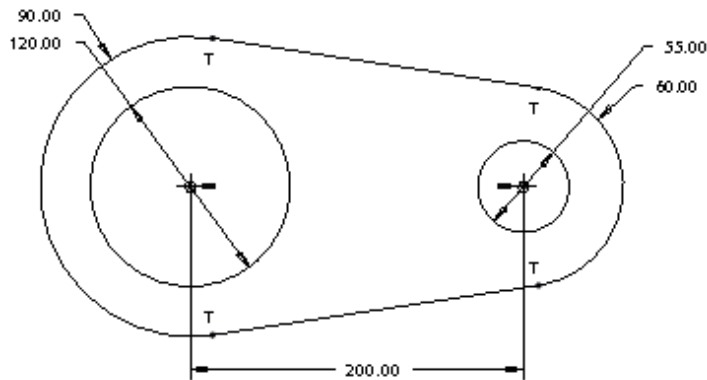

Figure 2-38 Complete sketch with dimensions and constraints
- Dimension the sketch and then modify the dimensions of the sketch, refer to Figure 2-38.
The completed sketch is shown in Figure 2-38.